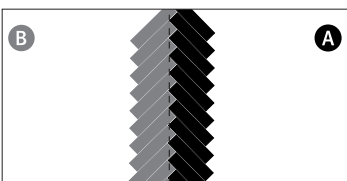

Figure 9
- Start from the center of the room. Offset the line using the X measurement as the distance and snap a chalk line. Place first triangle on the installation line. Snap chalk lines parallel to the starter line at either end of the triangle. Spread sufficient amounts of the recommended adhesive in an area that can be covered within the working time the adhesive. Build off either side with alternating rows of A and B planks. As you build your first row be sure to keep the installation line centered between the alternating A and B planks (Figure 9).